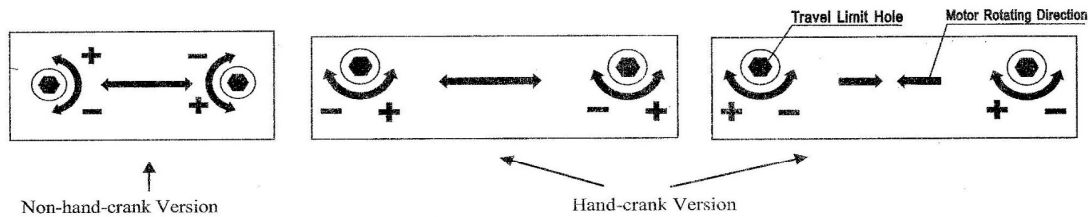

Fig. 5
2. According to motor rotating direction and adjusting instructions, insert travel limit pole into its travel limit hole to adjust limit travel: the direction of "+" is increasing shutter's travel; the direction of "-" is decreasing shutter's travel. (Fig. 5)